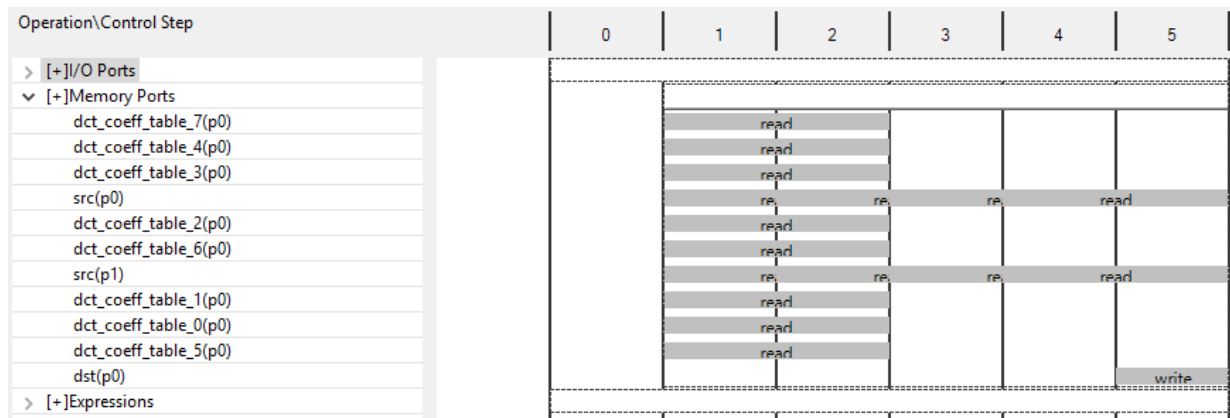

Figure 6-23: Resource Sharing of Memory Ports in DCT_1d
16. Expand the Memory Ports, as shown in Figure 6-23.
The rows list the resources in the design. In Figure 6-23, the memory resources are expanded.
Figure 6-23 shows the memory accesses on block RAM `src` are being used to the maximum in every clock cycle. (At most, a block RAM can be dual-port and both ports are being used). This is a good indication the design may be bandwidth-limited by the memory resource. To determine if this really is the case, you can examine further.